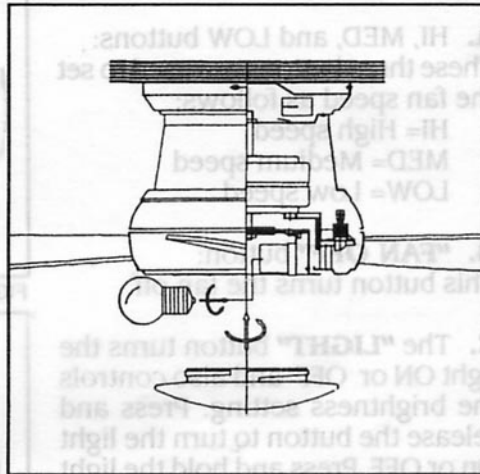

FIG. 7
Step 1. Install 1-100W medium base bulb. (Bulb not Included) (Fig. 7)
Step 2. Raise glass shade up against bottom of fan housing and secure it to the fan by twisting glass clockwise until snug. DO NOT OVERTIGHTEN. (Fig. 7)